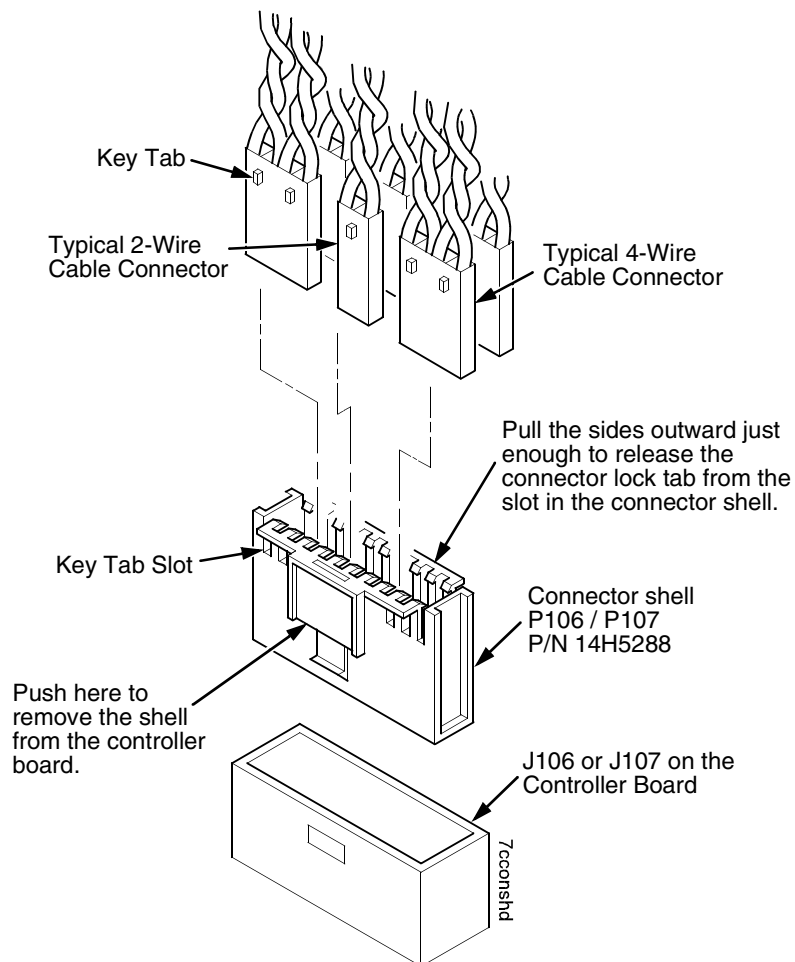

Figure 14. This figure shows how to assemble a cable connector shell.
4. Pull the side of the connector shell outward and gently pull the cable connector upward. (See Figure 14.) Notice that two-wire connectors are grouped across from two-wire connectors in a connector shell. Four-wire connectors are grouped across from four-wire connectors in a connector shell.
1. Position the cable connector in the connector shell. Two-wire connectors are always grouped across from two-wire connectors in a connector shell. Four-wire connectors are always grouped across from four-wire connectors in a connector shell. (See Figure 14.)